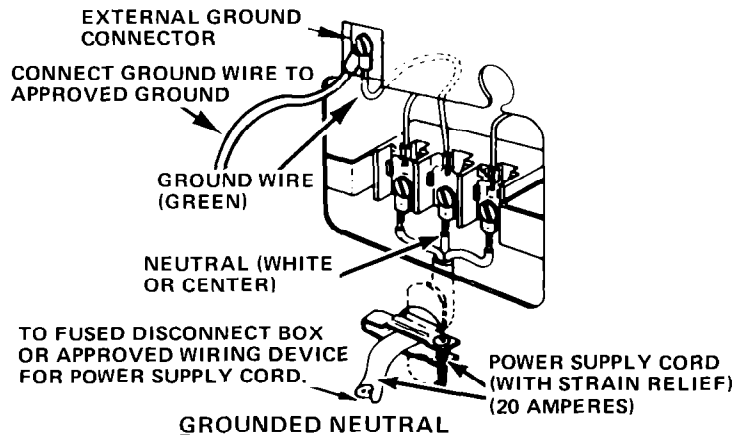
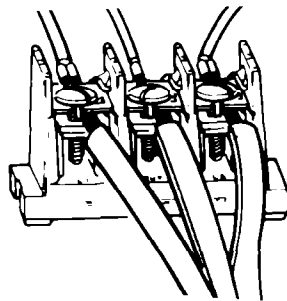

Figure 6
Figure 7
2. Disconnect the green grounding wire (ring terminal end) from the terminal block and connect to the external ground connector, see Figure 6.
3. Connect the neutral wire of the power supply cord to the center terminal of the terminal block and connect the other wires to the outer terminals. See Figure 6. For connecting plain-end field wire, see Figure 7.
NOTE: Plain-end field wires must be fastened between the terminals of the terminal block and the nuts of the terminal block screws as shown in Figure 7.